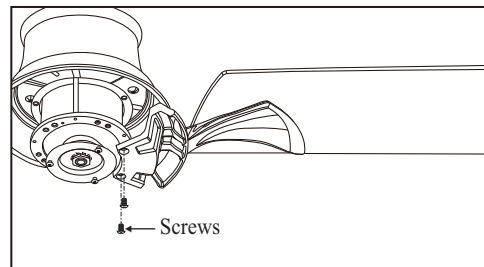

Figure 12
3. Fasten blade assembly to motor using the screws supplied. (Fig. 12)